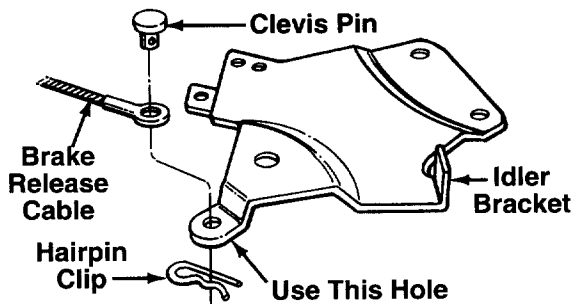

FIGURE 8.—Underneath Tractor (Manual PTO units only).
11. **Models 1463834H and 146W834H:** Secure the brake release cable to the tractor idler bracket with clevis pin and small hairpin clip, using the hole in the idler bracket as shown in figure 8.